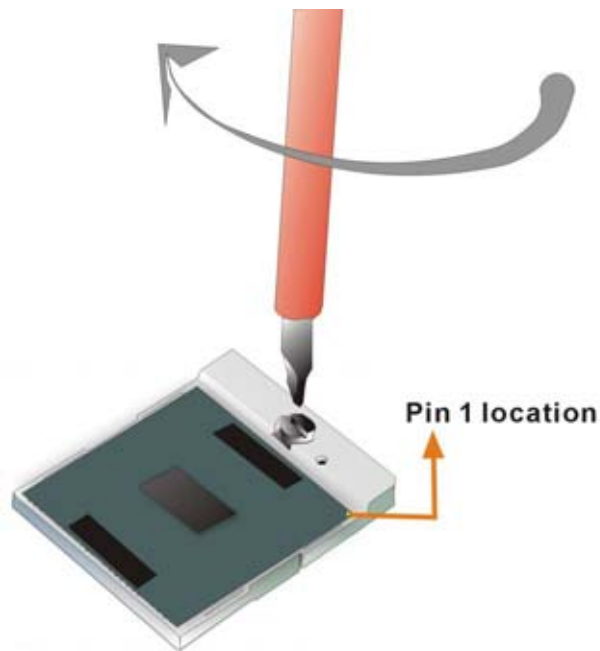

Figure 4-3: Lock CPU Socket Retention Screw
- Step 9: Lock the retention screw.** Rotate the retention screw into the locked position. See **Figure 4-3**.